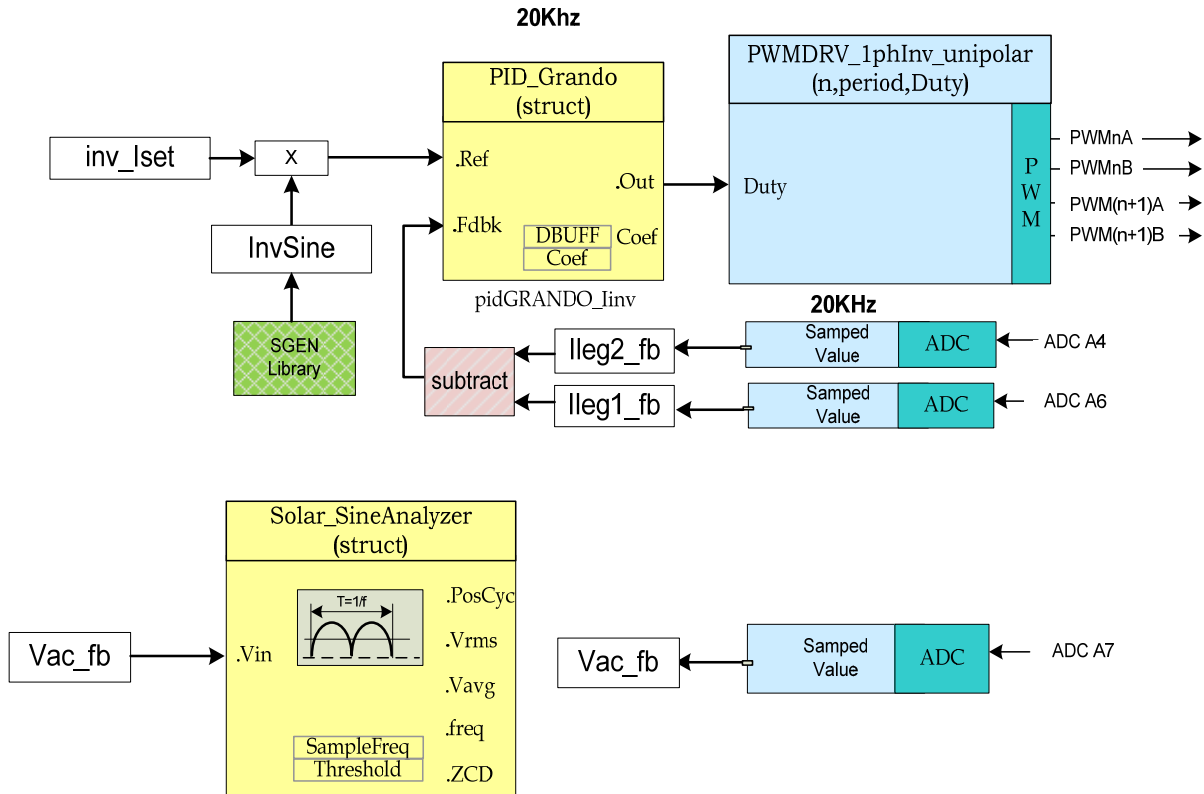

Fig 19 Build 1 Control Software Diagram
The PWM and ADC driver macro instantiations are executed inside the *SolarExplorer-Main.c* file. Fig 19 shows the software blocks used in this build. The quantities that are sensed and fed back to the MCU include - (1) the two inverter leg currents (*llegal_fb*, *llegal1_fb*) sampled at appropriate time instance and the difference saved as *inv_meas_cur_diff_inst*, (2) Output AC voltage (*Vac_FB*) and (3) the DC bus voltage (*VboostRead*), not used in this build.